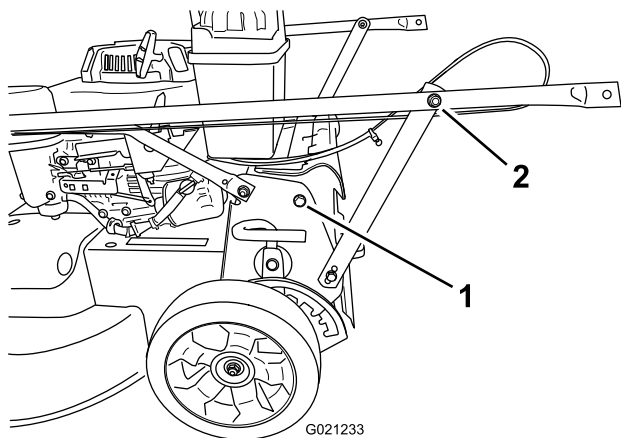

Figure 1
1. Remove the 2 bolts from the machine frame in the location shown in Figure 1.